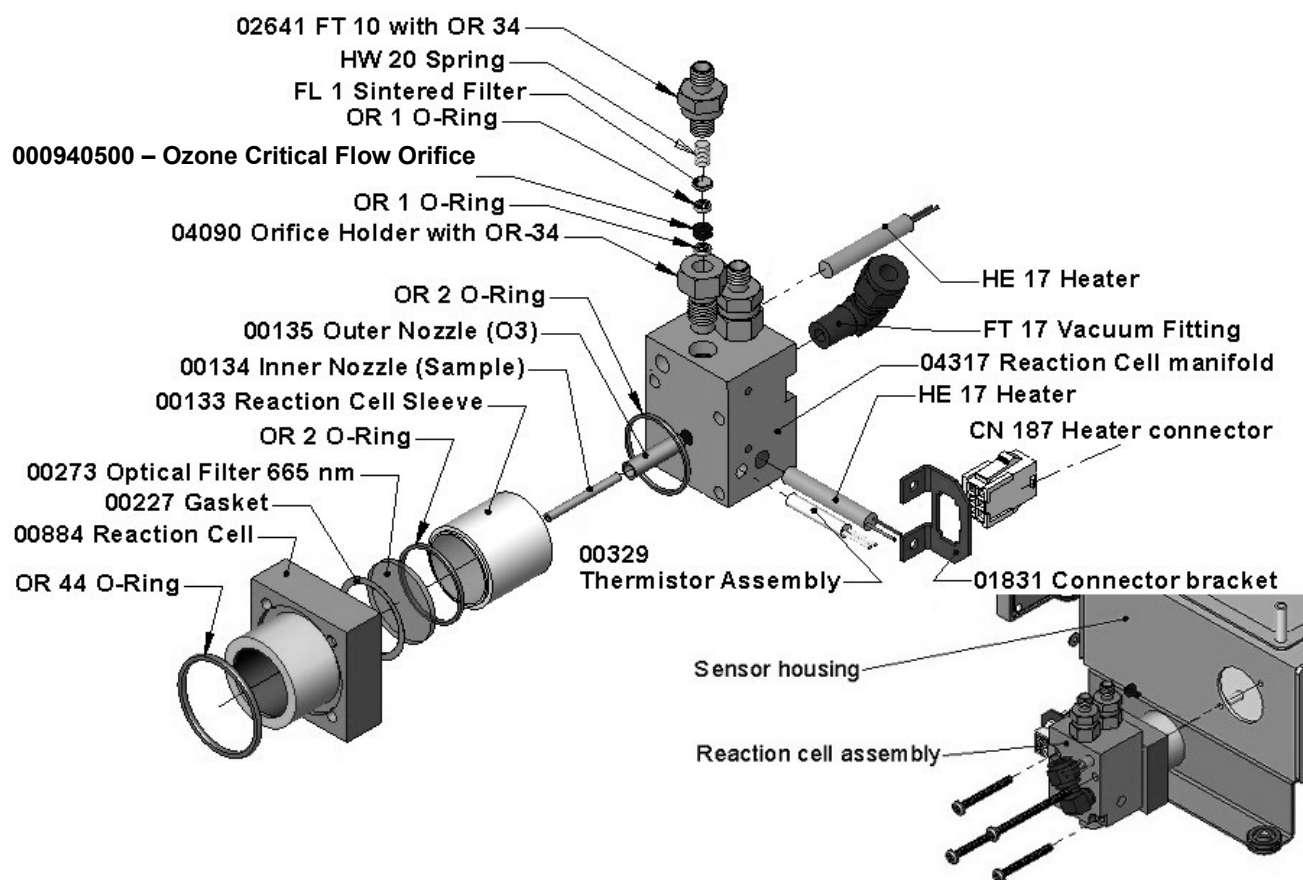

Figure 9-5: Reaction Cell Assembly
1. Turn off the instrument power and vacuum pump. Refer to the Figure 9-5 for the following procedure.
3. Remove four screws holding the reaction cell to the PMT housing and lift the cell and manifold out as shown in the inset of Figure 9-5.
There are several critical flow orifices installed in the M200EH/EM, Figure 9-5 shows one of the two most important orifice assemblies, located on the reaction cell. Refer to Section 10.3.3 for a detailed description on functionality and locations. Despite the fact that these flow restrictors are protected by sintered stainless steel filters, they can, on occasion, clog up, particularly if the instrument is operated without sample filter or in an environment with very fine, sub-micron particle-size dust.
1. Turn off power to the instrument and vacuum pump. Remove the analyzer cover and locate the reaction cell (Figure 9-5, Figure 11- and Figure 3-4).
3. For orifices on the reaction cell (Figure 9-5): Unscrew the orifice holder with a 9/16" wrench. This part holds all components of the critical flow assembly as shown in Figure 9-6. Appendix B contains a list of spare part numbers.